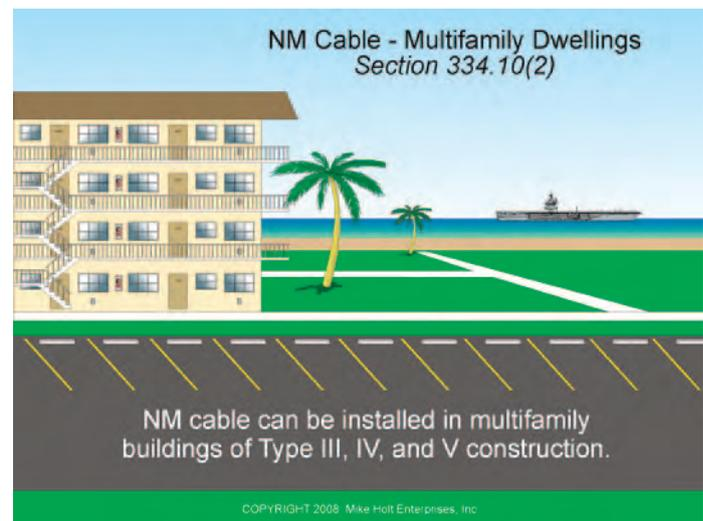

Figure 334-2
- (2) Multifamily dwellings permitted to be of Types III, IV, and V construction. **Figure 334-2**